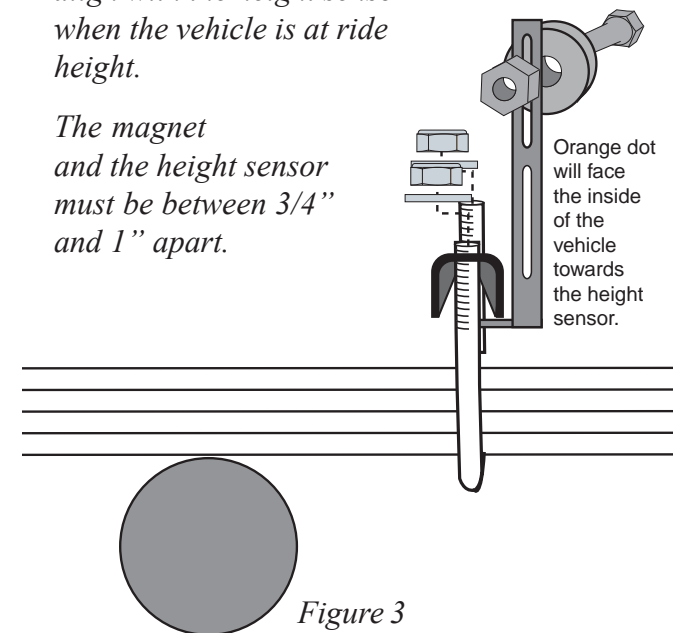

Figure 3
1. Place the supplied u-bolt around the leaf springs near the previously mounted height sensor (Figures 3 and 4).
3. Attach the bracket to the u-bolt using the chosen mounting method using Figure 3 or 4.